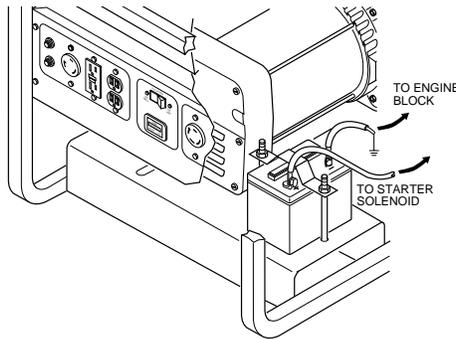

Figure 14 - Connecting Positive and Negative Cables to Battery (Model RGH7500AIE Shown)
2. Locate the red, positive (+) battery cable from starter solenoid. Connect it to the positive (+) battery terminal (see Figures 14 and 15).
3. Locate the black, negative (-) battery cable attached to engine block. Connect it to the negative (-) battery terminal (see Figures 14 and 15).